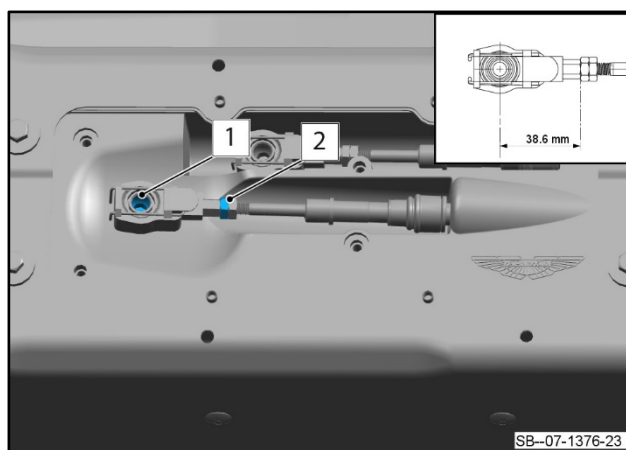

Figure 18
20. Measure and record the distance between the centre of the ball joint (1) and the adjustment nuts (2) and adjust to the dimension shown (refer to Figure 18).